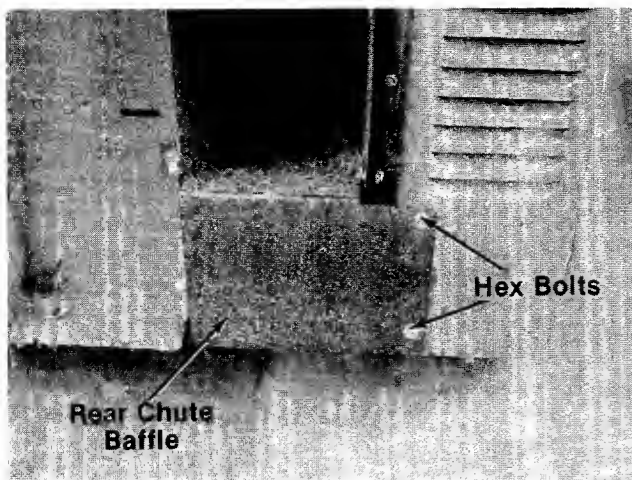

FIGURE 24.
3. Remove the rear chute baffle by removing the two hex bolts, lock washers, and hex nuts used to secure the rear chute baffle to the grass catcher adapter. See figure 24.
2. Remove the rear chute baffle. Refer to figure 24.